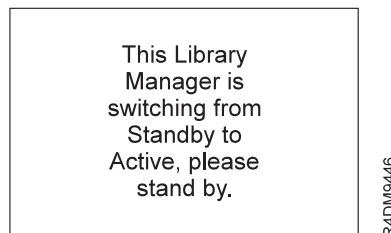

Figure 168. Library Manager Switching Window
**Dual Library Manager Configuration:** For a dual library manager configuration no library manager corrective action is needed. The standby library manager automatically begins switching control from the active library manager which will take approximately 10 minutes to complete. See Figure 168.